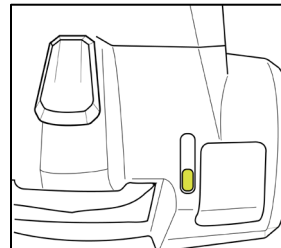

Figure 12: Drive Position
Pull back on the freewheel lever towards the letter D (Drive Position). *See figure 12.*
- Make certain the freewheel lever is set to the engaged position. *See Figure 12 on Page 21.*